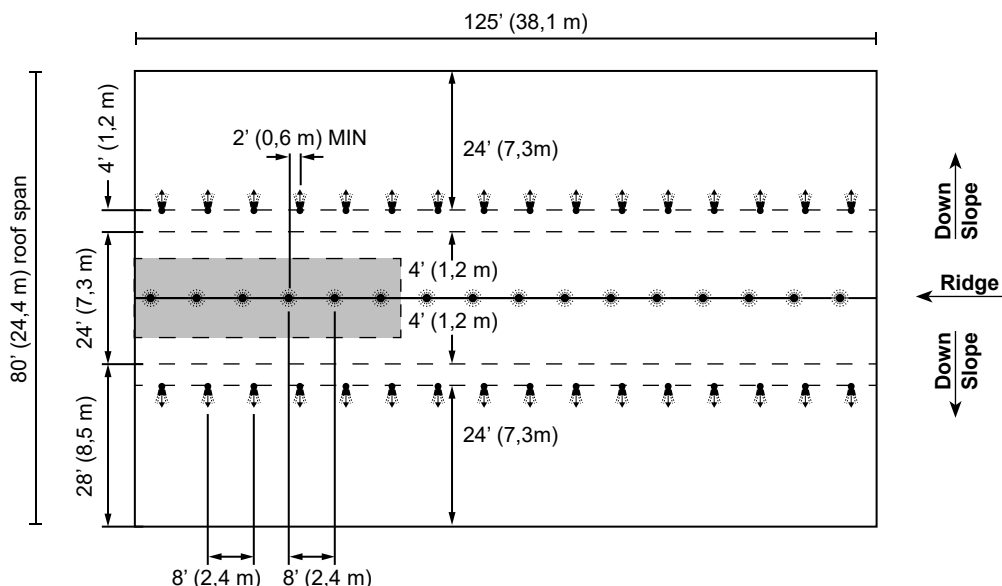

Figure 14A: Dry System Design for 80 ft (24,4 m) Roof Span
1. Figure 14A - Calculate the 6 most demanding VK697 Ridge Sprinklers. Down slope V-EP Sprinklers staggered arrangement. Continue to #2 below.